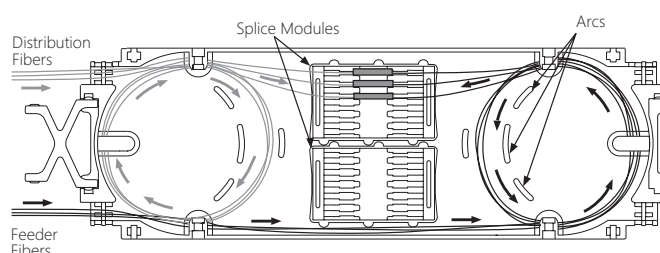

Figure 2
4.1.6. Gather slack fiber to be stored at one end of the tray. Fold the fiber loops over on themselves to form a coil roughly three inches in diameter. Lay the coil on the tray around the arcs. Fibers must be routed as shown in Figures 2 and 3